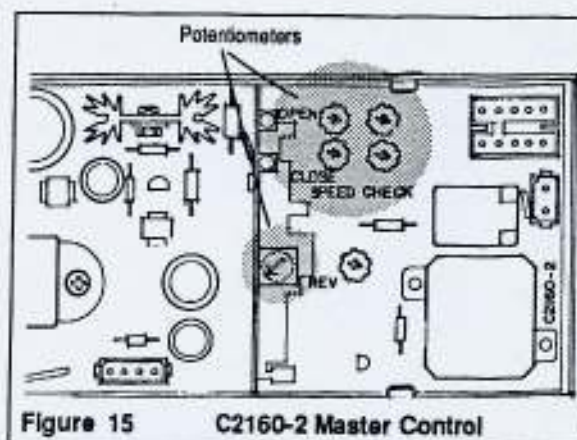

Figure 15 C2160-2 Master Control
- Before installation of the C2160-2 master control in a Series 2000 Electric Sliding door, it is important that all potentiometers (Figure 15) be adjusted to the lowest setting by turning them counterclockwise.